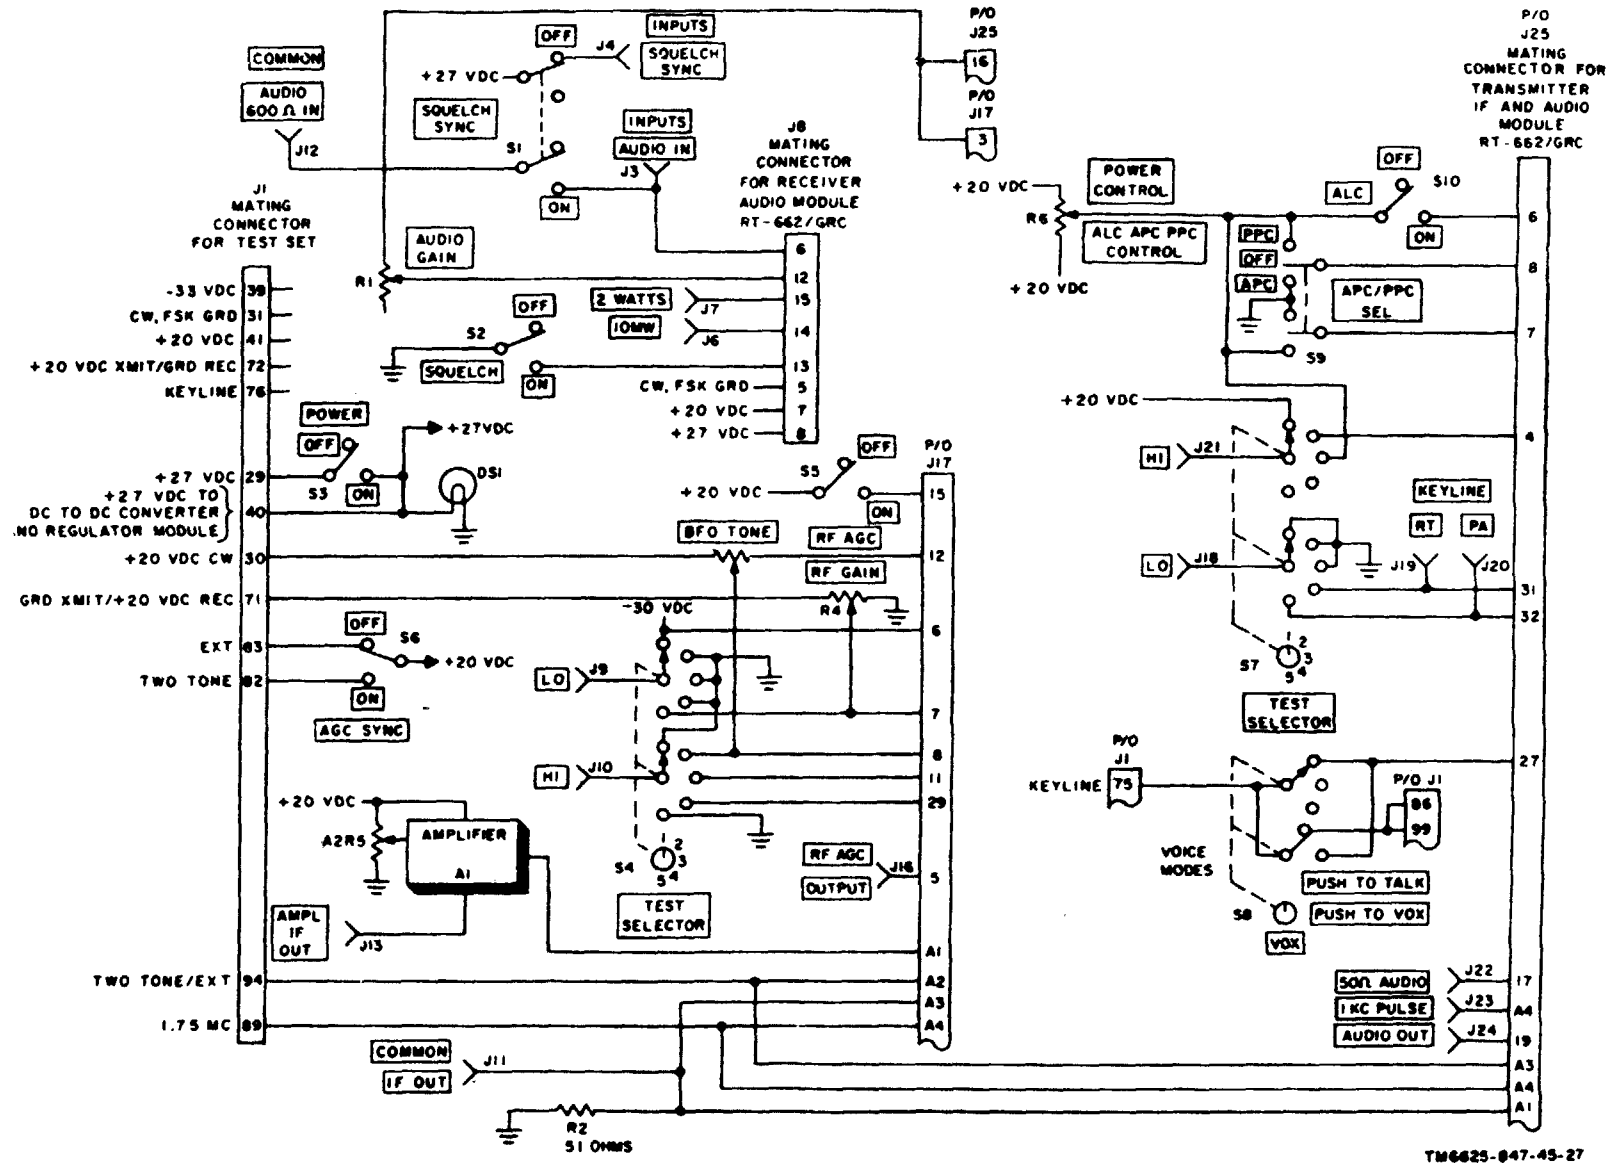

Figure 1-12. Common module tray A1A2, simplified schematic diagram.
1-16 Common Module Tray A1A2 (fig. 1-12 and fig. 6-8)
a. Figure 1-12 shows the various controls, stimulus inputs, resistive loads, and test points available on tray A1A2 for testing the receiver IF module, the receiver audio module, and the transmitter IF and audio module of the RT-662/GRC.
(fig. 1-12 and fig. 6-8)
1-19. RCVR IF TEST SELECTOR Switch S4 (fig. 1-12 and fig. 6-8)